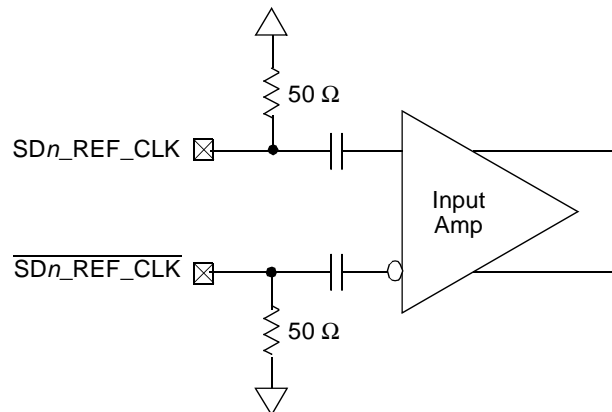

Figure 49. Receiver of SerDes Reference Clocks
Figure 49 shows a receiver reference diagram of the SerDes reference clocks.
- The $\overline{SDn_REF_CLK}$ and SDn_REF_CLK are internally AC-coupled differential inputs as shown in Figure 49. Each differential clock input ($\overline{SDn_REF_CLK}$ or SDn_REF_CLK) has a 50 Ω termination to SGND_SRDS_n (xcovvss) followed by on-chip AC-coupling.